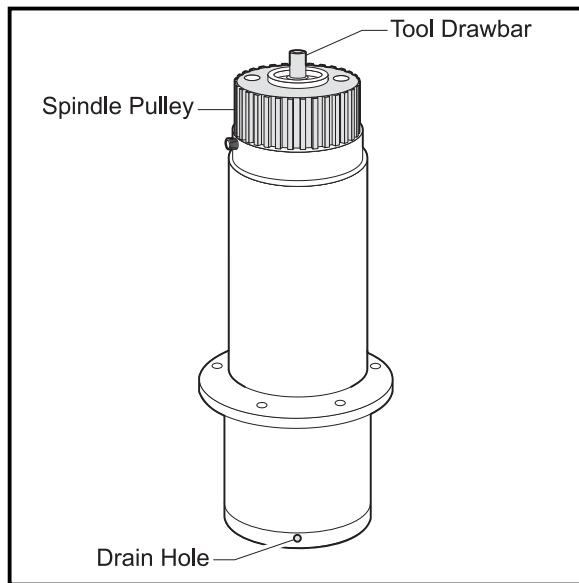

Figure 3-8. Spindle cartridge.
3. Carefully install new spindle into bored sleeve of head casting. Apply grease to the inside of the through bore in the spindle head (see Figure 3-8).